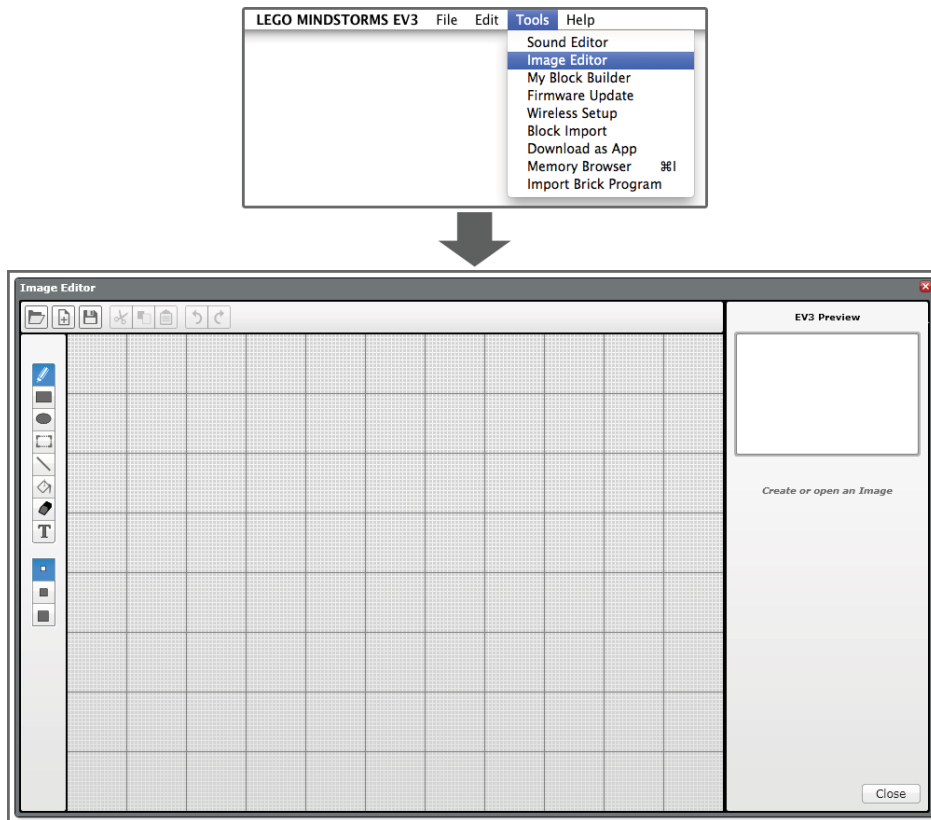

Figure 5-29: The Image Editor
1. Go to Tools on the menu bar and choose the Image Editor. Did you get this new window to pop up (see Figure 5-29)?